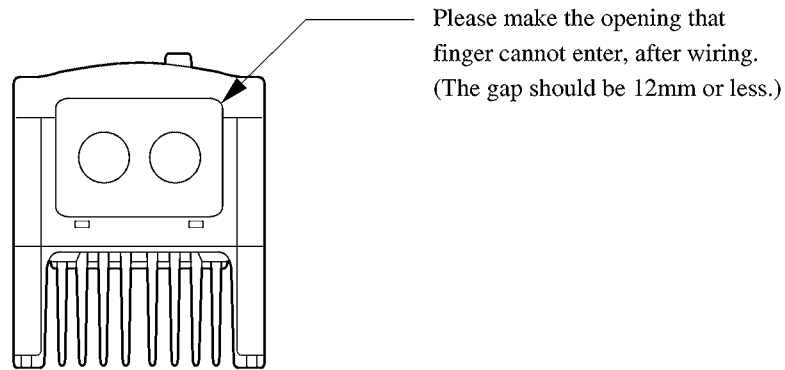

Figure 5 Wiring opening cover
- 1) When the inverter is installed outside a cubicle wiring openings should be covered, so that it should prevent someone from touching live parts through the openings in case of a maintenance. (Refer to Figure 5)